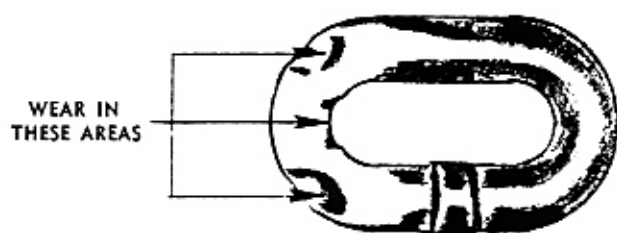

FIGURE 4-1 TYPICAL WEAR ON LINKS
- b. Inspect each link for wear to the diameter of the link (see Figure 4-1). The nominal link diameter is .281 inch for the chain on model CB-1 and .375 inch for models CB1½, 2, 4, 5, 6 and 8. Models CB-3, 10 and 12 have nominal link diameter of .437 inch. If the diameter of any link of